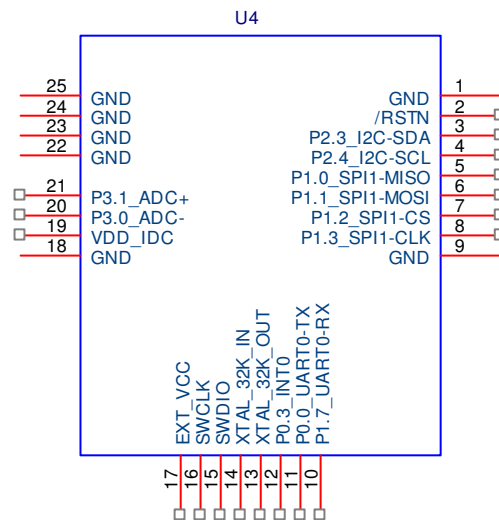

Figure 1 PCB Antenna pin out
1.2	Change transparent transfer baud rate to 115200. Connect Pin19 to Vin in figure 1 and 7